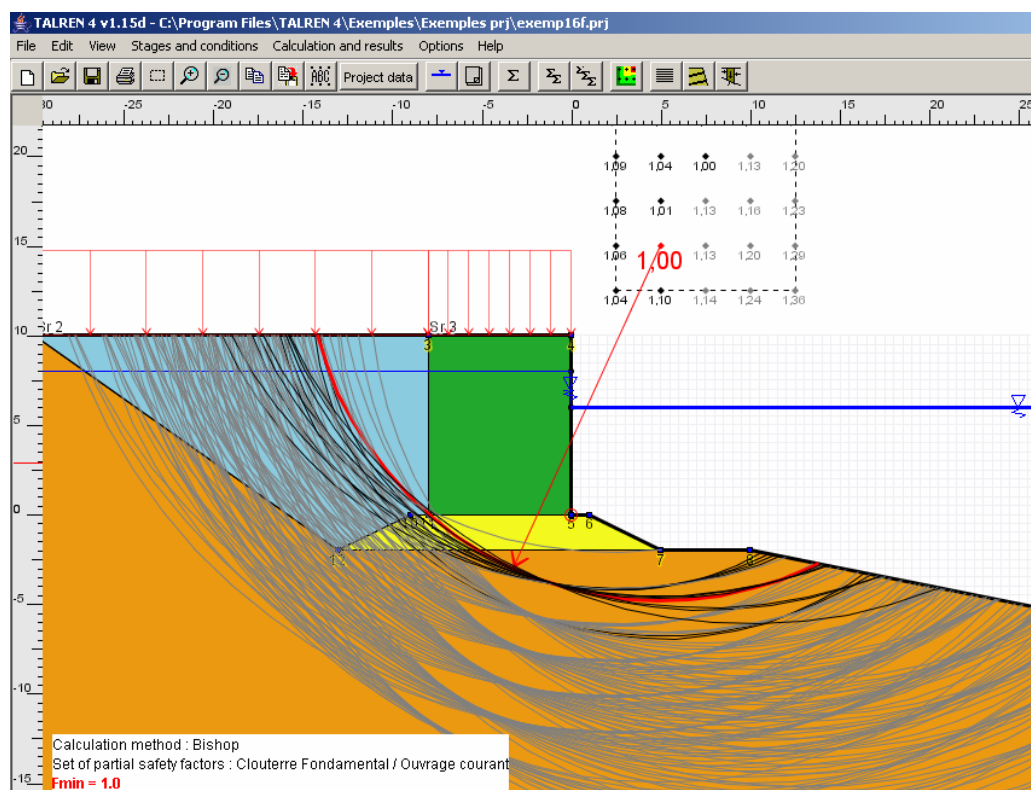

Figure 110: display of circles corresponding to a given range of safety factor values
- All circles corresponding to a certain range of safety factor values (Figure 110);